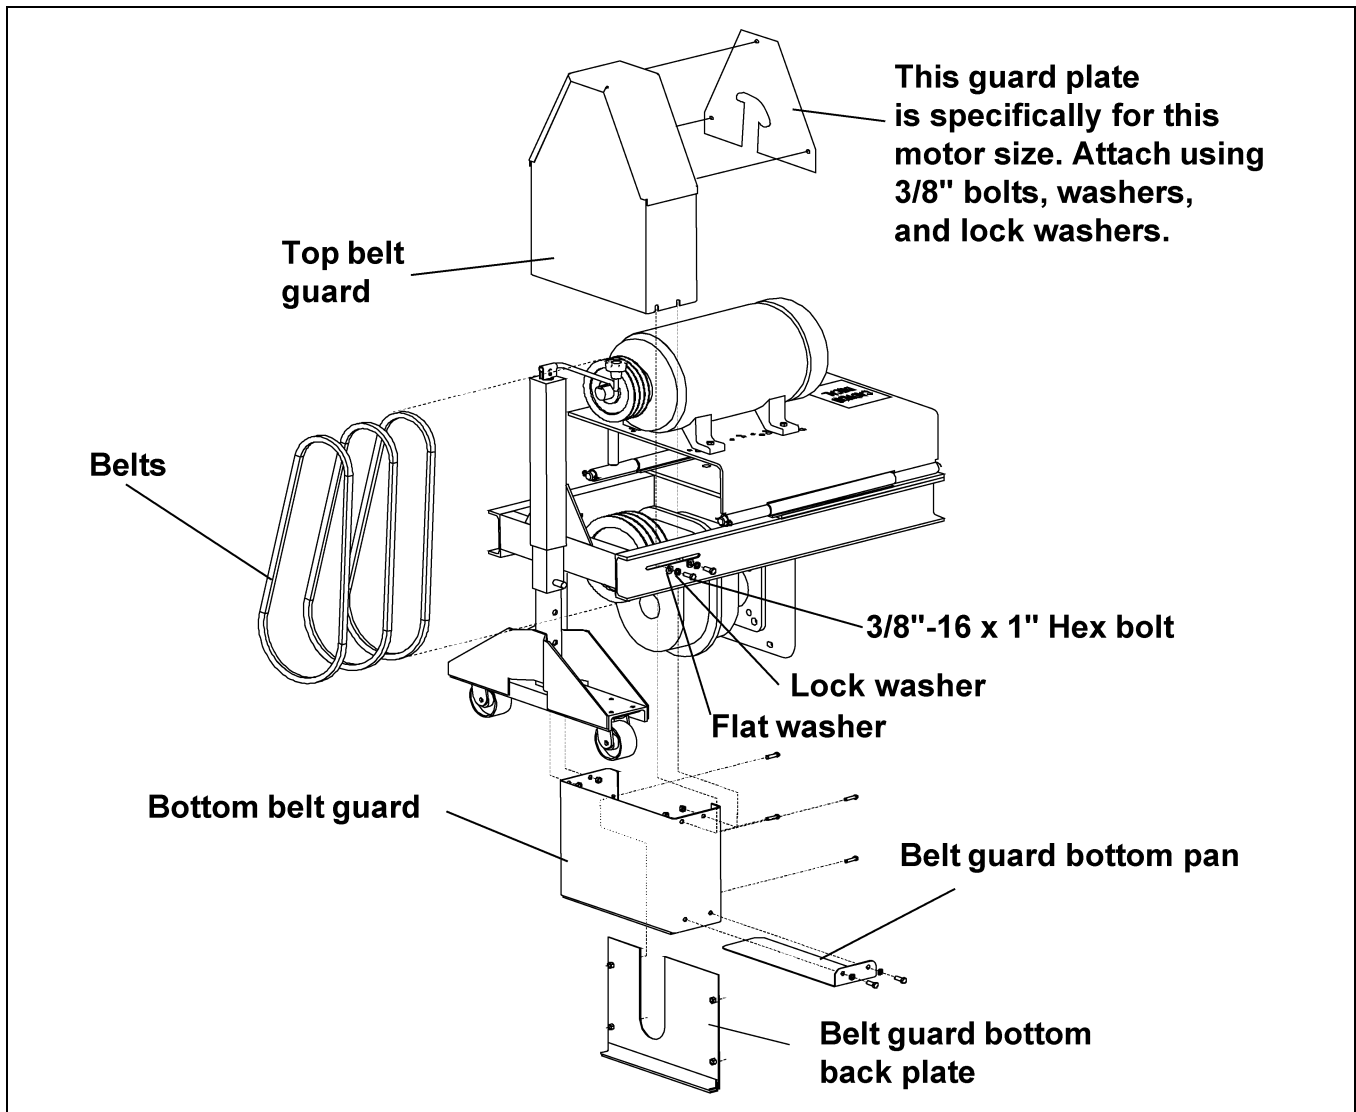

Figure 5Z
F. Carefully install the belts onto the large and small sheaves. (See Figure 5Z on Page 44.)
G. Loosely bolt the bottom belt guard to the motor mount using four (4) 3/8"-16 x 1" hex bolts, flat washers and lock washers. (See Figure 5Z.)
H. Slide the top belt guard over the bottom belt guard as shown in See Figure 5Z and tighten bolts.